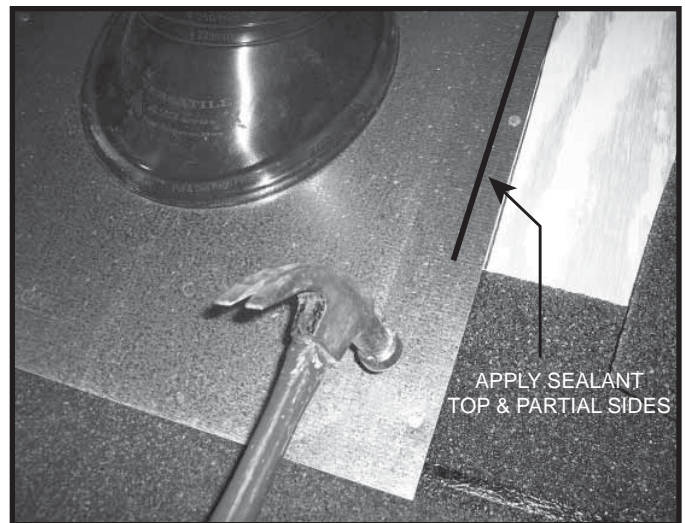
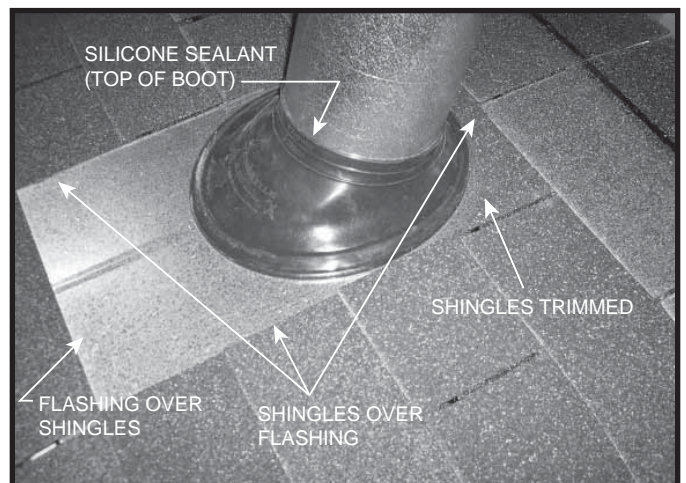

Figure 10.21 Slide Flashing Down, Secure & Apply Sealant
Figure 10.22 Installation Complete
- Apply silicone sealant on the top and sides edges of the flashing. See Figure 10.21. Install shingles. Apply sealant at the top edge of the rubber boot. See Figure 10.22.